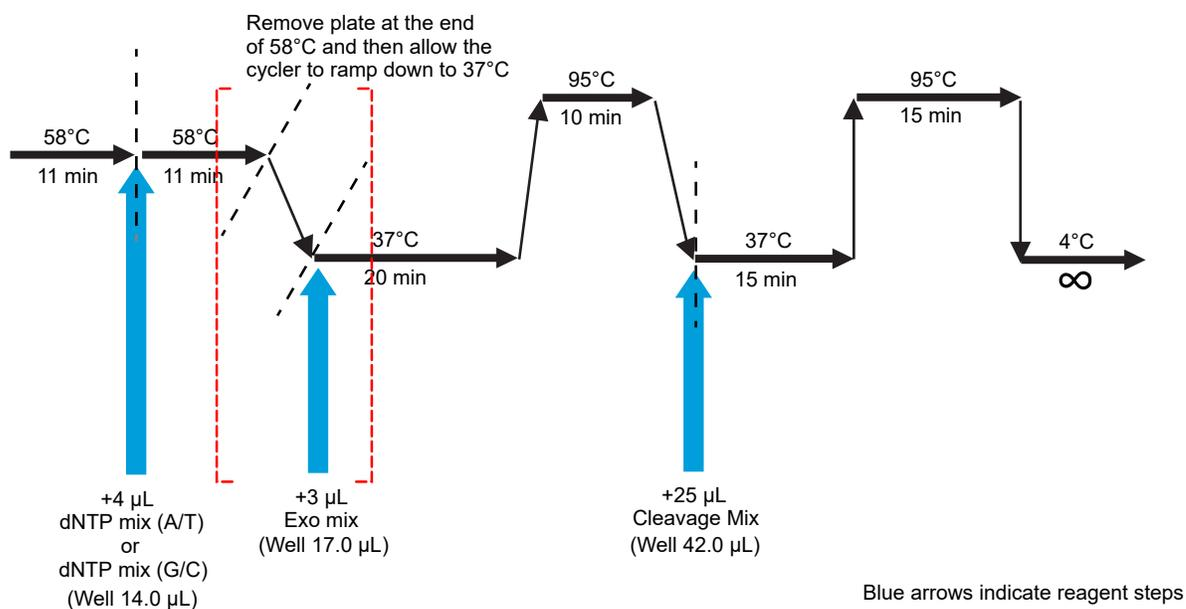

Figure 11 Exo Mix addition.
**IMPORTANT!** When the timer ends, return to the thermal cycler to pause the protocol. (Figure 11.) It is critical to pause and remove the plate from the thermal cycler at the end of the 58°C incubation. **Do not** allow the plate to ramp down to 37°C. This will result in non-specific Gap Fill and compromised data.
2. When the protocol reaches the end of the 58°C incubation, pause the protocol at 58°C. (Figure 11.)
4. Resume the OncoScan Gap Fill protocol on the thermal cycler. Allow it to ramp down to the start of the 37°C step. Pause the protocol at the start of the 37°C step. (Figure 11.)
2. Resume the OncoScan Gap Fill thermal cycler protocol. (Figure 11.)